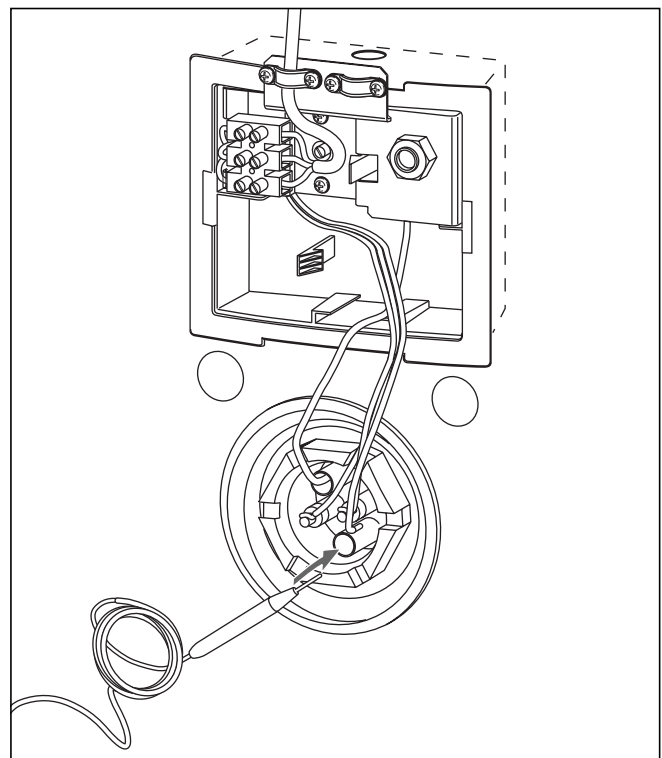

Fig. 5.6 Installing the NTC
- Remove the capillary tubes (3) of the thermostat and the thermal cutout from the dry pocket of the uniSTOR.
- Now the NTC can be pushed into the free dry pocket of the cylinder as shown in fig. 5.6.